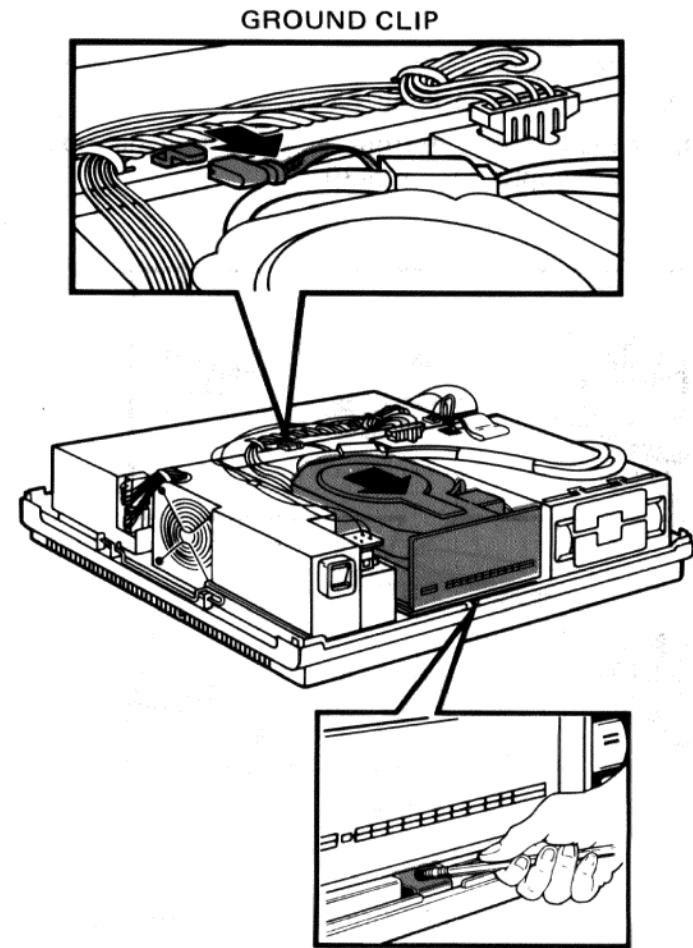

Figure 5-31 Unplugging Ground Clip and Sliding Hard Disk Drive Forward
4. If a hard disk drive (Winchester) is present, unplug the ground clip from the power supply (Figure 5-31). Press the front latch with a pencil and slide the hard disk drive forward (Figure 5-31). Unplug the 4-wire power cable from the hard disk drive (see Figure 5-32).